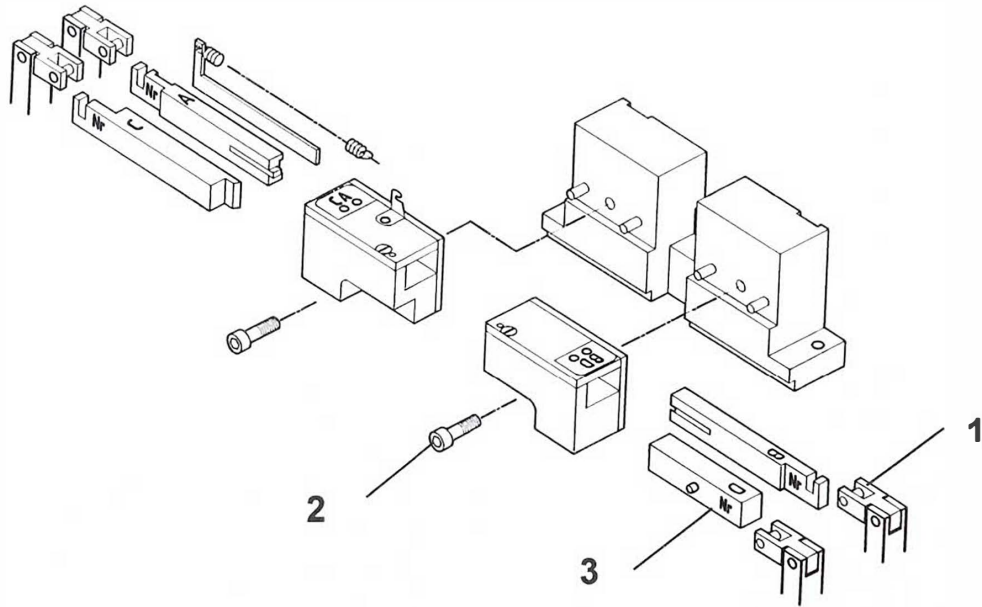

Figure 6
5. Unlock the tools. (collapse the tappet (Fold driver up. (Fig. 6 item 1)
6. Remove the two fixing screws (Fig. 6 item 2) and take off the tool holder.
7. Unscrew the set screw (Fig. 6 item 4) on the rear of the holder.